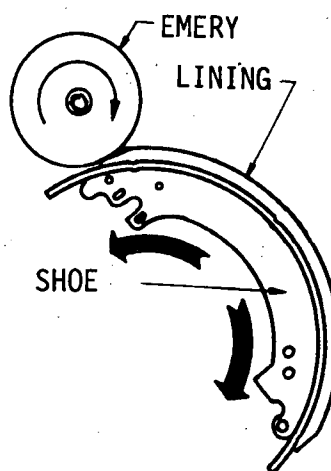

Fig. 4
- d) Chamfer the brake lining at its ends (fig. 4).